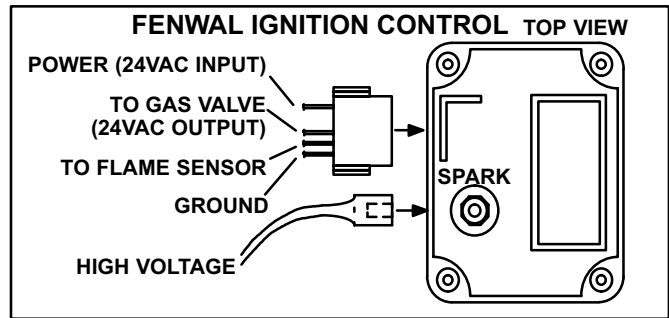

FIGURE 20
- b- The Fenwal control is illustrated in figure 20. The four-wire harness, plugged directly into a jack on the side of the control, is used to connect control to unit. Each of the four jack terminals is identified by function. The spark electrode wire connects to the spark plug-type connector on top of the control.